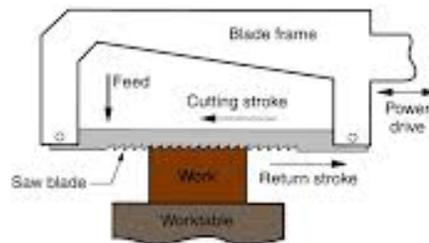

Figure Saw-5: a blade in a suitable position
6. Adjust a blade movement direction toward the workpiece. See figure Saw-5.